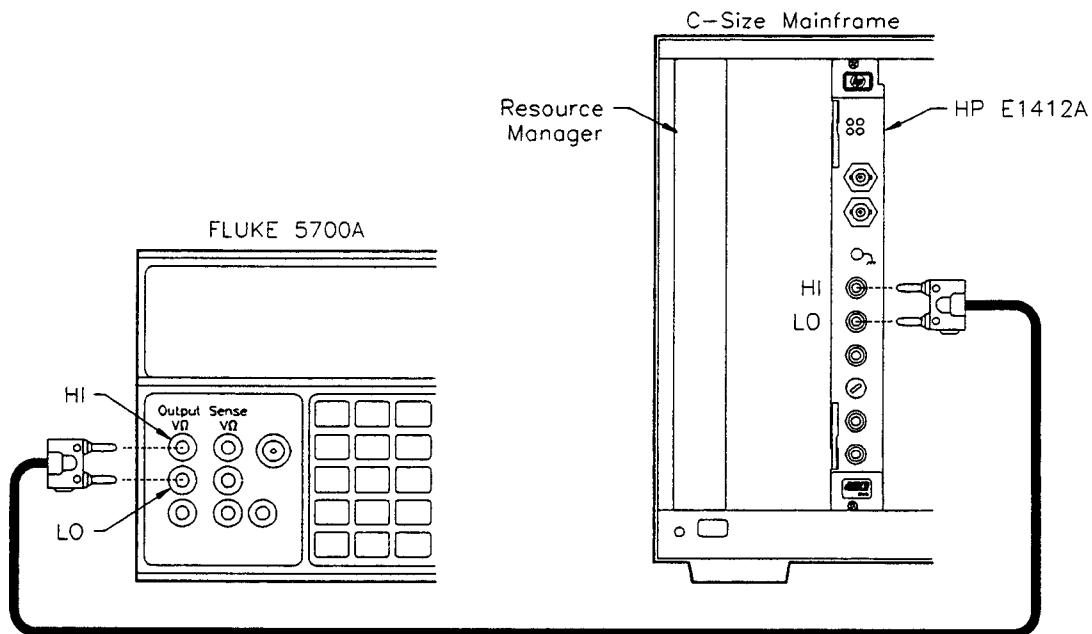

Figure 5-3. DC Voltage Gain Adjustment Setup.
1. Connect the DC Standard output across the HI and LO terminals of the HP E1312A or HP E1412A as shown in Figure 5-3.
1. Connect the AC Standard output across the HI and LO terminals of the HP E1312A or HP E1412A as shown in Figure 5-3.